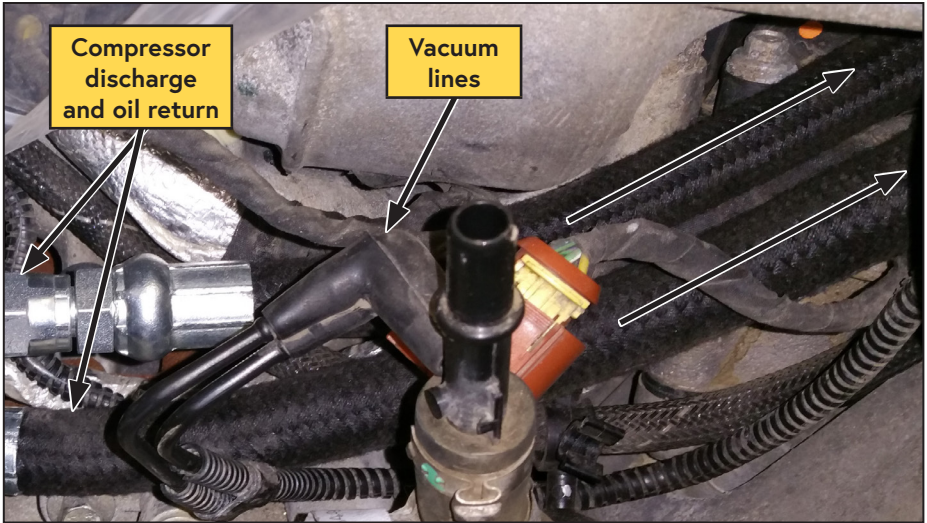

Figure 20 — Routing the hoses from the compressor
- Route the 1/2 in × 25 in discharge hose, the 3/8 in × 240 in oil return hose, and the 1/4 in × 240 in PTFE tube under the OEM intake manifold (Figure 20).
- Ensure the OEM vacuum lines and wiring are not pinched. The vacuum lines and/or wiring may need to be disconnected to route them correctly (Figure 20).